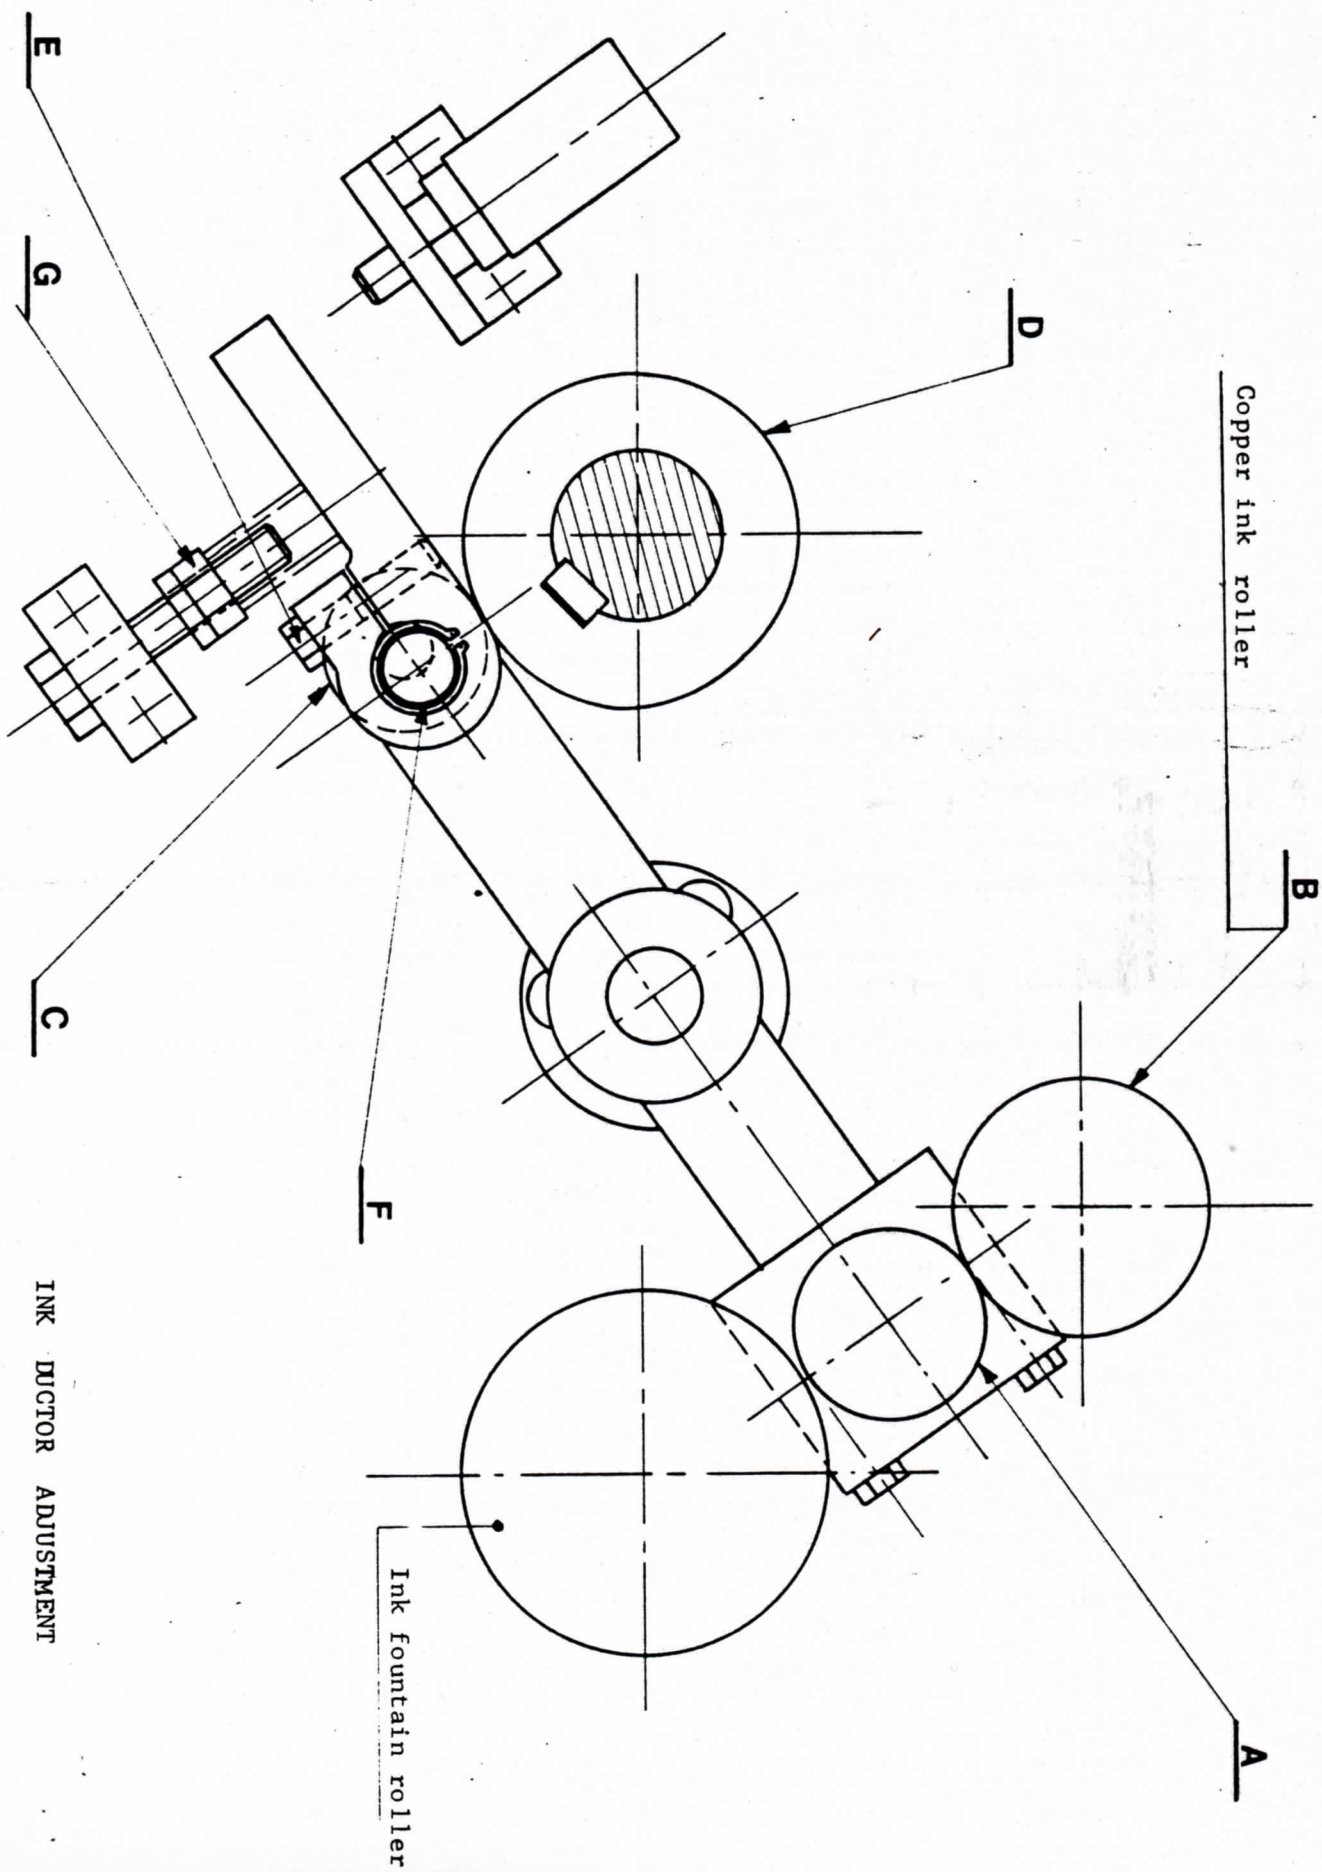

Fig. 16
2. Bring cam follower "C" on the highest profile of cam "D" as shown on Fig. 16.